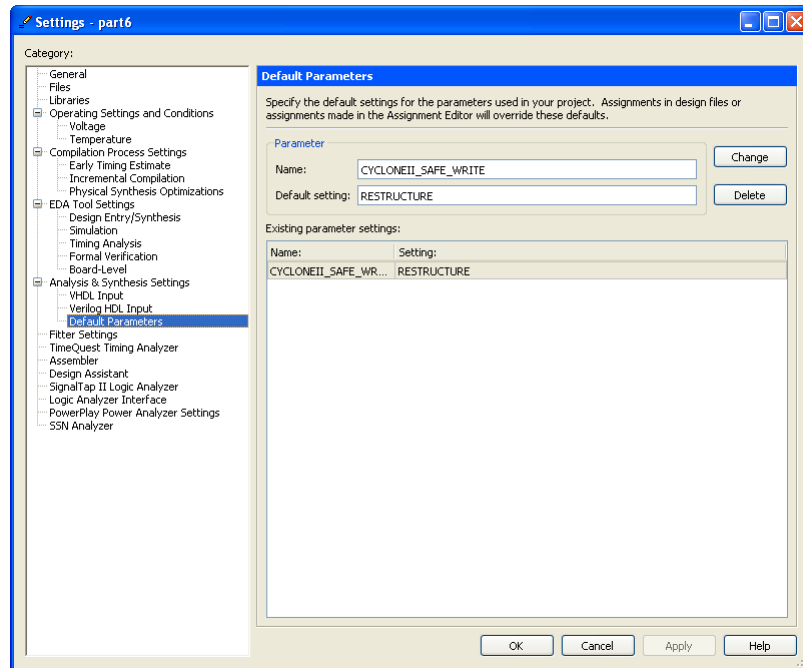

Figure 7: Setting the *CYCLONEII\_SAFE\_WRITE* parameter.
3. Before you can use the In-System Memory Content Editor tool, one additional setting has to be made. In the Quartus II software select **Assignments > Settings** to open the window in Figure 7, and then open the item called **Default Parameters** under **Analysis and Synthesis Settings**. As shown in the figure, type the parameter name **CYCLONEII\_SAFE\_WRITE** and assign the value **RESTRUCTURE**. This parameter allows the Quartus II synthesis tools to modify the single-port RAM as needed to allow reading and writing of the memory by the In-System Memory Content Editor tool. Click **OK** to exit from the Settings window.